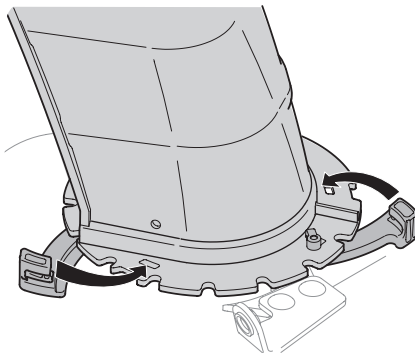

Figure 2-12
2. Close flange keepers to secure chute assembly to chute base. Flange keepers will click into place when properly secure. See Figure 2-12.